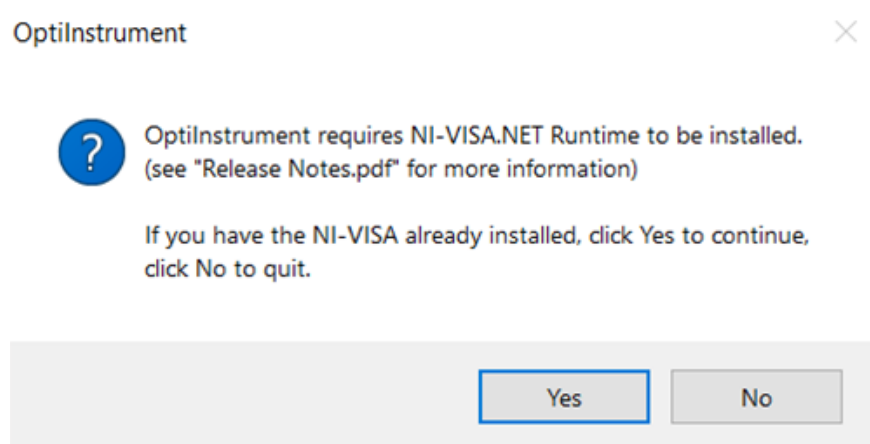

Fig. 1 OptiInstrument installation popup message
- When starting the installation process of OptiInstrument, the popup message shown in Fig.1 offers the user a choice to quit the installation process if the NI-VISA.NET Runtime package is not installed on the same computer or continue the installation if the package is installed. However, the error message shown in Fig. 2 appears when the user initiate OptiInstrument application and the NI-VISA package is not installed.